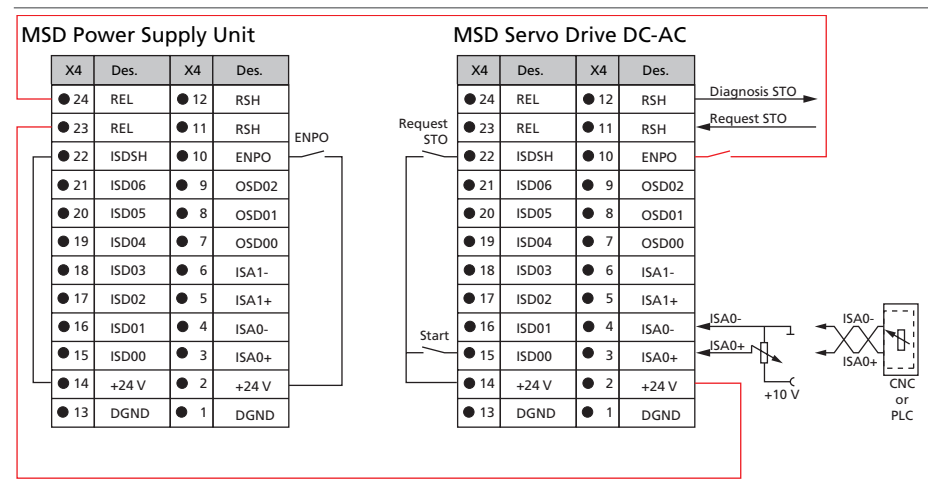

Fig. C.1 MSD Servo Drive multi-axis system lock
1.	Wire the supply unit with the connected DC-AC servo drives as shown in fig. C.1.